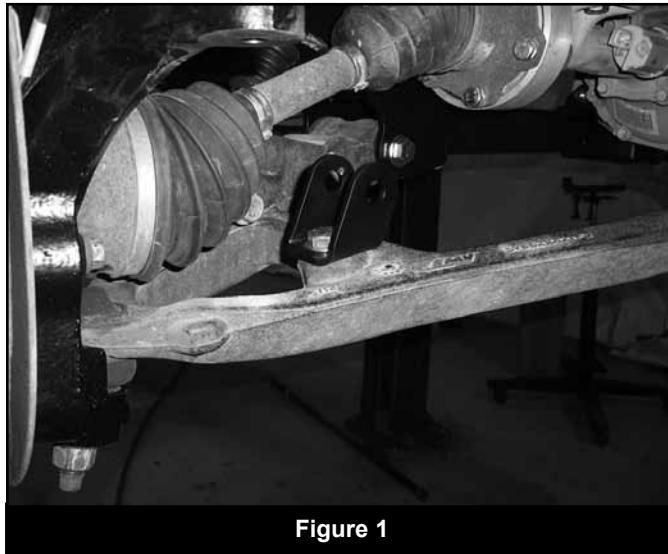

Figure 1
1. Install the provided offset sway bar link u-bracket (02102) on the lower control arm in the original sway bar link hole with a 5/8" x 1-3/4" bolt, nut and washers (BP 569). Position the bracket so that it offsets in toward the center of the vehicle (Fig 1). In some cases it may be necessary to slightly clearance to hole for the 5/8" hardware.